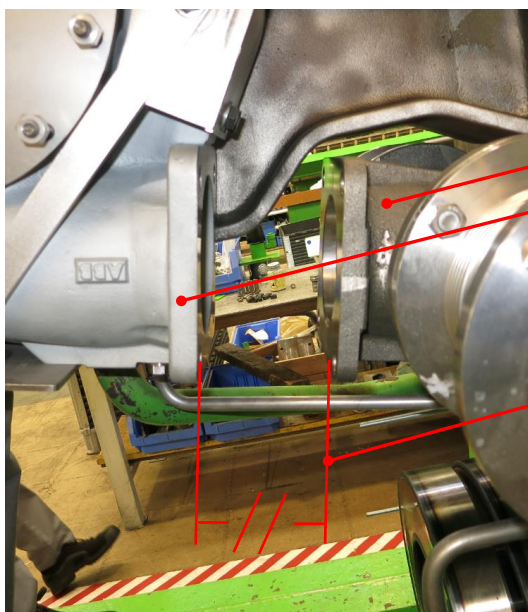

Figure 14: Aligning the exhaust-side turbocharger housing
- ✓ Align the exhaust-side turbocharger housing and the T-piece (make sure the flanges are parallel, see Figure 14)